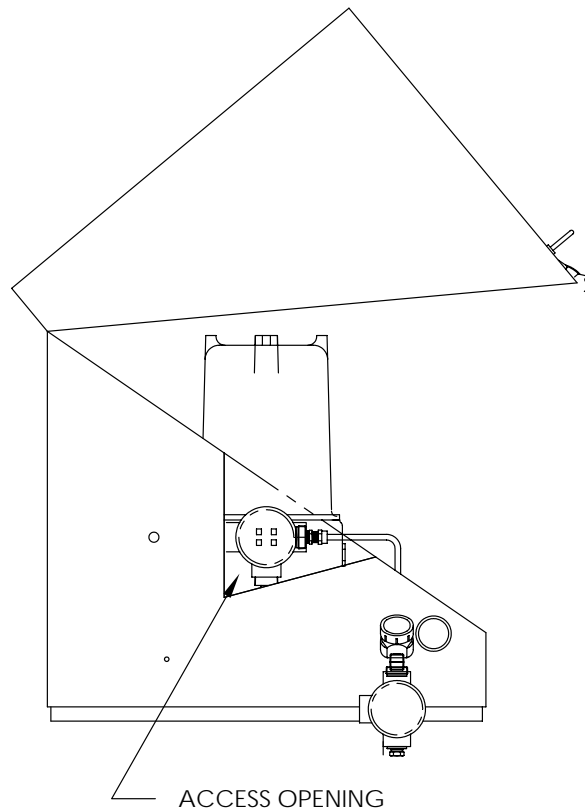

Figure 14 Cold Weather Enclosure Access Panel Removed
- 1) Remove left side access plate from enclosure (see Figure 14).